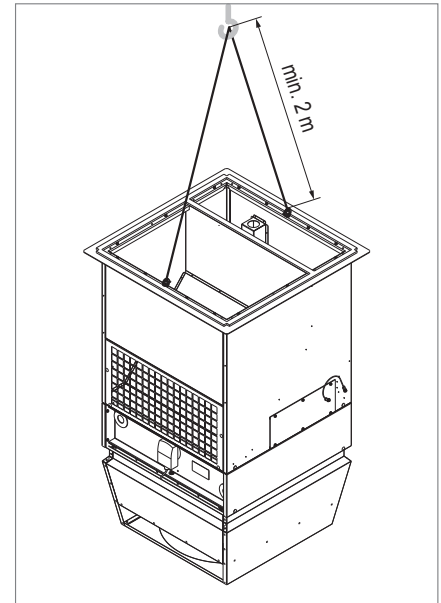

Fig. 24: Minimum length of the lifting ropes
- Heed the minimum length of the lifting ropes (see Fig. 24).